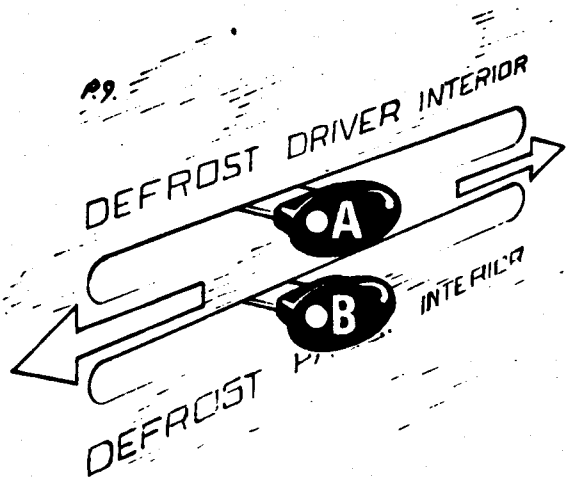

Fig. 1. HEATER CONTROLS.
Interior heating and ventilation can be controlled individually by both driver (A) and passenger (B) alike, using the control levers as shown in Fig.1.
3. Adjust the cable to give the clearance at the cable abutment (see Fig. 1).